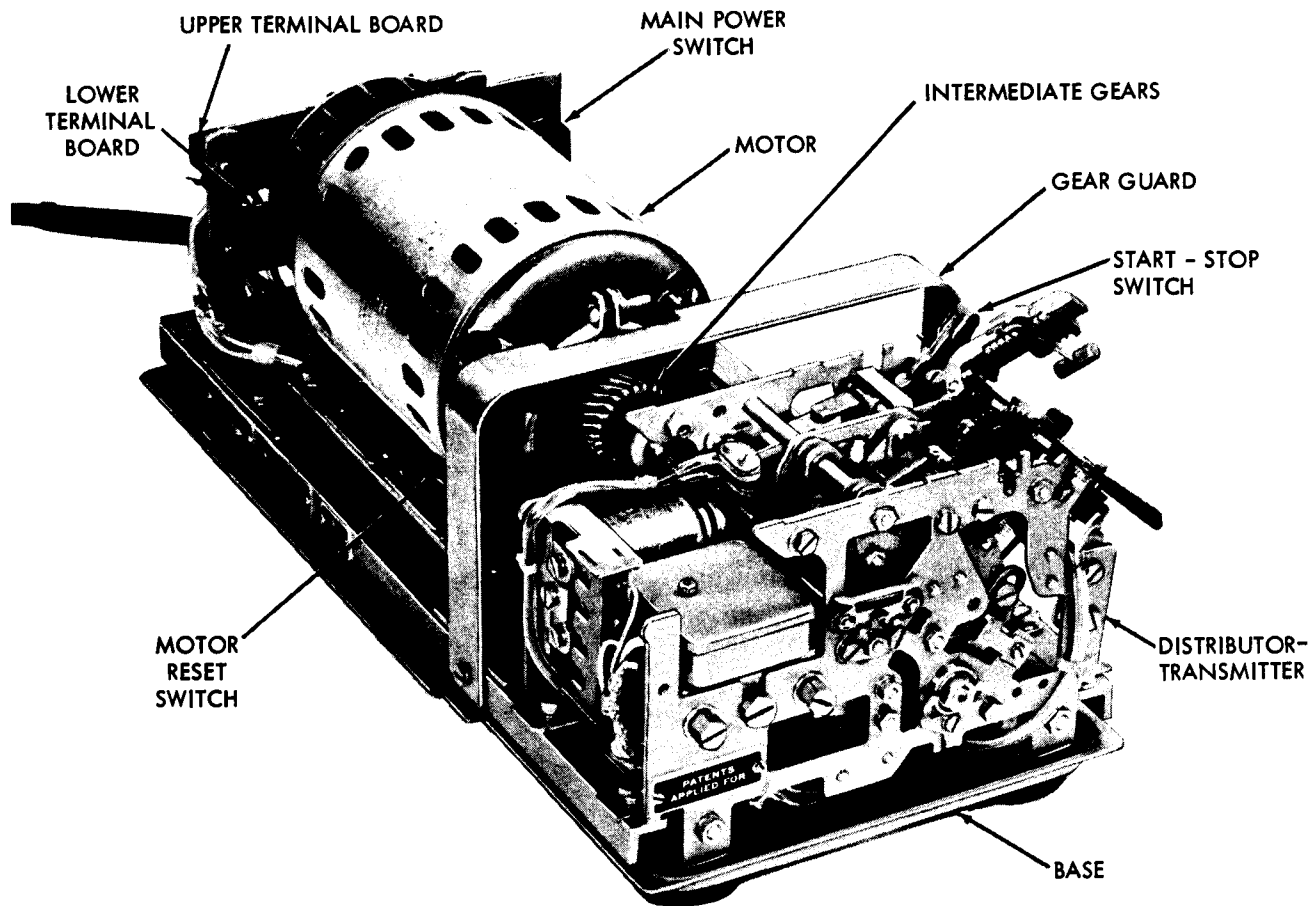
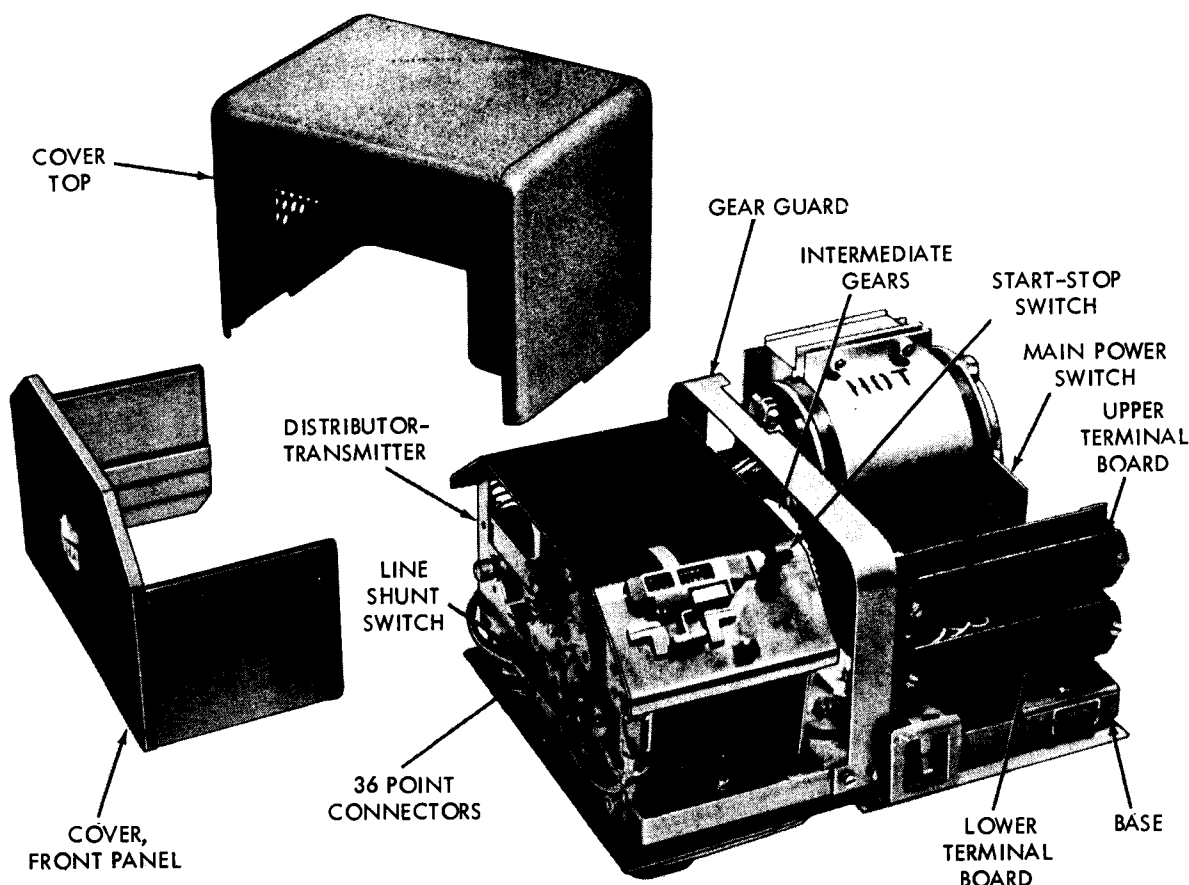

Figure 1-3. Distributor-Transmitter TT-187/UG, Cover and Cover Plates Removed
Figure 1-4. Distributor-Transmitter TT-187A/UG, Cover Removed
a. COVER (TT-187/UG) OR MINIATURIZED COVER (TT-187A/UG). (See figure 1-4.)
(1) A two-piece sheet metal cover encloses the top and sides of each distributor-transmitter. The front portion of the cover is identical on all sets. It consists of a three sided panel slipped horizontally over the transmitting mechanism and the front portion of the base. Detent slots in the sides of the panel retain this portion of the cover to the distributor-transmitter. The transmitting mechanism is covered by three cover plates which are a part of the distributor-transmitter.
(2) TT-187/UG — A cover encloses the rear of the base and the gear guard, protecting the motor, intermediate gear mechanism and electrical connections and reducing operating noise. The cover clips
(3) TT-187A/UG (figure 1-4). — A miniaturized cover encloses the rear of the base and the gear guard, protecting the motor, intermediate gear mechanism and electrical connections and reducing operating noise. The cover is positioned vertically over the rear of the set to engage three spring clips mounted on the sides and rear of the base. Provision is made at the rear of the cover for access to the main power switch and for entry for power and signal cords.
b. BASE (TT-187/UG) OR MINIATURIZED BASE (TT-187A/UG). (See figures 1-3 and 1-4.)
(1) A flat metal stamping serves as a stand, drip pan and mounting support for the distributor-transmitter. Four triangular telephone type mounting feet are attached to the bottom of the base plate. Supports and brackets for operating mechanisms are suspended above the base plate on three rubber shock mounts
(2) TT-187/UG (figure 1-3). — This distributor-transmitter is furnished with a full size base equipped as described in paragraph 1-3b(1). This base is designed for mounting the full size cover and large motor and is therefore not interchangeable with the base used on miniaturized equipment.
(3) TT-187A/UG (figure 1-4). — This distributor-transmitter is furnished with a miniaturized base equipped as described in paragraph 1-3b(1). In addition, this base features a line shunting switch (figure 1-4) to close the signal line when the distributor-transmitter is removed from the base. The base is designed for mounting the miniaturized cover and motor.
c. MOTORS. (See figures 1-3 and 1-4.)
(1) GENERAL. Each distributor-transmitter is a motor driven by a self-contained 115 V a.c. synchronous motor. The motor is designed to operate at 3600 r.p.m., and variations in operating speed are obtainable through changes in intermediate gear mechanisms. Power from an external power supply to the motor is controlled through a main power switch located on the base. There is a push-button type thermal switch (figure 1-3) on the motor as protection against overload. The standard motor (TT-187/UG) and the miniaturized motor are operationally similar but differ in size and weight. They are not interchangeable.
(2) TT-187/UG (figure 1-3). — The motor furnished with this distributor-transmitter 1/20 h.p., 115 V, 60 cycle a.c. wound stator, two pole, single phase, capacitor start synchronous motor. A combination handwheel and fan is mounted on one end of the motor shaft. A motor-starting relay and capacitor, together with the thermal cutout switch are mounted in a compartment on the underside of the motor. The thermal cutout switch (manually reset) serves to protect the motor windings from excessive heating. The motor proper is supported by a cradle to which it is held by straps at each end. Resilient mounts on the hubs of the motor end bells reduce transmission of vibration to the base.
(3) TT-187A/UG (figure 1-4). — The motor furnished with this distributor-transmitter is a 1/40 h.p., 115 V, 60 cycle a.c. wound stator, two pole single phase, capacitor start synchronous motor. A motor-starting relay and capacitor, together with the thermal cutout switch, are mounted beneath the cradle which supports the motor. The motor is held to the cradle by straps on each end of the shaft. Resilient
d. DISTRIBUTOR-TRANSMITTER. (See figures 1-3 and 1-4.)
(1) Different distributor-transmitters are used in TT-187/UG and TT-187A/UG to accommodate the equipment to differences between the standard and the miniaturized base. The operating features of the two distributor-transmitters are identical.
(2) Each distributor-transmitter is a mechanical tape reader designed to convert coded messages stored on standard five-level chadless or fully perforated tapes to signaling code combinations for transmission in a telegraph channel. A main shaft powered by the motor through intermediate gear connections operates a cam-clutch assembly. The cam-clutch, through a main bail, drives a transfer mechanism and a signal generating mechanism and a tape feed wheel. The clutch is released by a clutch trip magnet assembly.
(3) Distributor-transmitter operating controls which are wired in series with the clutch trip magnets include a start-stop switch and a tape-out switch. The start-stop switch incorporates tight tape, on-off, and free-wheeling tape feed features. Electrical requirements for operation of distributor-transmitter controls are supplied through cable connections to terminal boards located on the base. The cable terminates in a 36-point connector (figure 1-4) mounted on the distributor-transmitter, mating with a similar connector on the base, in the case of Distributor-Transmitters TT-187A/UG.
(4) Electrical connections to the signal generator are made to the external signal line through the base. The equipment is designed to operate on either 0.060 or 0.020 ampere circuits. Normal operation is on a neutral circuit, but the equipment is wired for easy conversion to polar operation. Transmission speed can be 368, 460 or 600 o.p.m. (60, 75, or 100 w.p.m.) depending upon optional gear ratios selected in the intermediate gear mechanism.
(5) TT-187/UG (figure 1-3). — Distributor-Transmitters TT-187/UG are designed to extend the cable connections from the distributor-transmitter directly to the upper terminal board of the base. There are no connectors or receptacles on the distributor-transmitter and base, respectively. The distributor-transmitter has no provision for activating a line shunt switch.
(6) TT-187A/UG (figure 1-4). — Distributor-Transmitters TT-187A/UG are designed for mating connector and receptacle connections between the distributor-transmitter and base. Distributor-transmitter cabling terminates in a 36-point connector